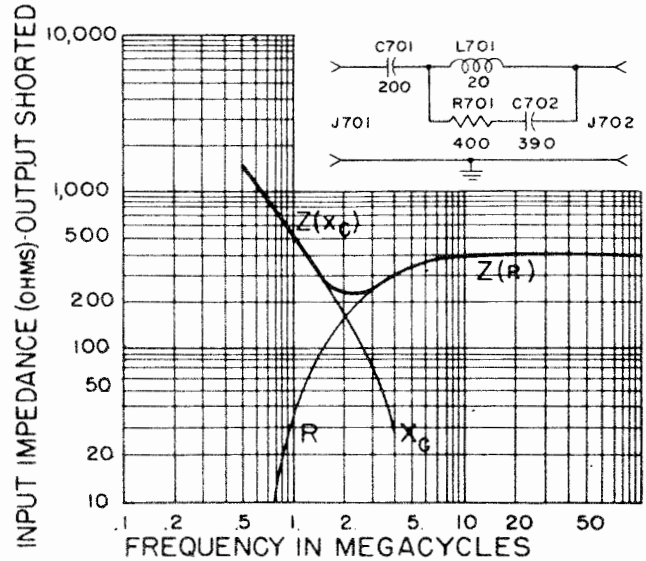

Figure 4-8. Schematic Diagram of the Antenna Simulator SM-35/URM-25 with Input Impedance Frequency Curve
(See figure 4-8).
c. It can be seen from figure 4-8 that the minimum impedance of the antenna simulator will be approximately 220 ohms at 2 mc. This impedance becomes much higher at lower frequencies and approaches 400 ohms at higher frequencies. In using the meter (M101) of the signal generator it should be realized that a 20 percent maximum error may be introduced at 2 megacycles. If greater meter accuracy is required when using the antenna simulator, the actual impedance of this unit should be calculated from figure 4-8 at the frequency selected.
d. From the impedance curve (figure 4-8), it can be seen that the minimum impedance of the antenna simulator will be approximately 220 ohms. When using this unit, first connect one end of the Impedance Adapter MX-1487/URM-25D to the output cable (W104) and plug the other end of W104 into J102 on the signal generator. Using the auxiliary cable (W105), connect the antenna simulator to the impedance adapter. If necessary, the second auxiliary cable (W106) may then be used to connect the antenna simulator to the receiver under test.
is 20 mc, it can be seen from figure 4-8 that the series impedance of the antenna simulator will be approximately 400 ohms resistive. Make the necessary connections as indicated in paragraph 9 of this section. A meter indication of 10,000 microvolts represents an input voltage of 10,000 microvolts to the antenna simulator.
f. For accurate receiver output voltage indication it should be remembered that the total load impedance represented by the antenna simulator in series with the load of the instrument under test should be at least 500 ohms. From figure 4-8 it is apparent that the accuracy will be sufficiently good at frequencies above 5 mc. Below 5 mc, the impedance falls off to approximately 220 ohms and the receiver input load should be sufficiently high (approximately 280 ohms or greater) to maintain the accuracy.